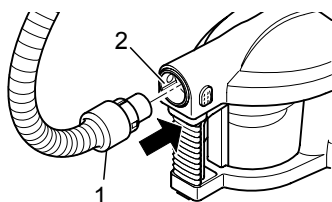

Fig.2
1. Push the end of the suction hose (Fig. 2/1) into the connection point (Fig. 2/2) of the cylinder vacuum cleaner until the lock audibly clicks into place.